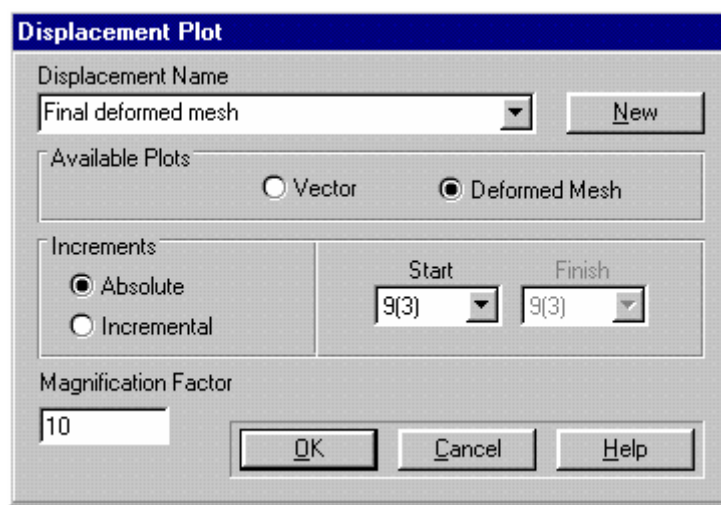

Figure 2-19: Displacement Plot dialogue box
- Step 5** Enter a Magnification Factor of 10. The Displacement Plot dialogue box should look similar to Figure 2-19.